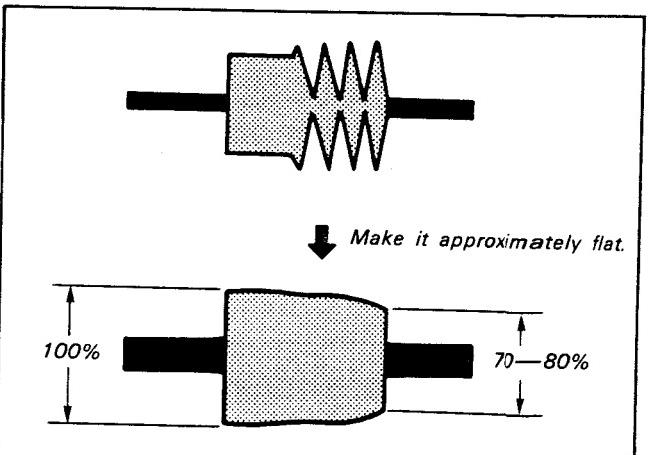

Fig. 4-13
- 3) Rotate No.5 guide counterclockwise to make the RF waveform on the exit side approximately flat. (Fig. 4-13)